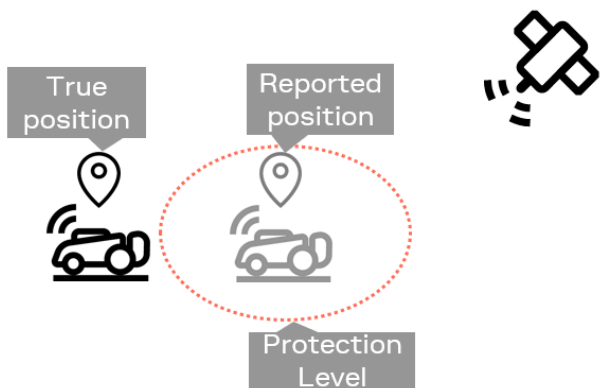

Figure 18: Misleading information
The protection level bounds the true position error with a target misleading information risk (TMIR), for example 5% [MI/epoch] (read: 5% probability of having an MI per epoch). The target misleading information risk describes the probability per epoch of having misleading information (MI), meaning that it is not possible to bound the true position error because it is larger than the protection level (see Figure 18).